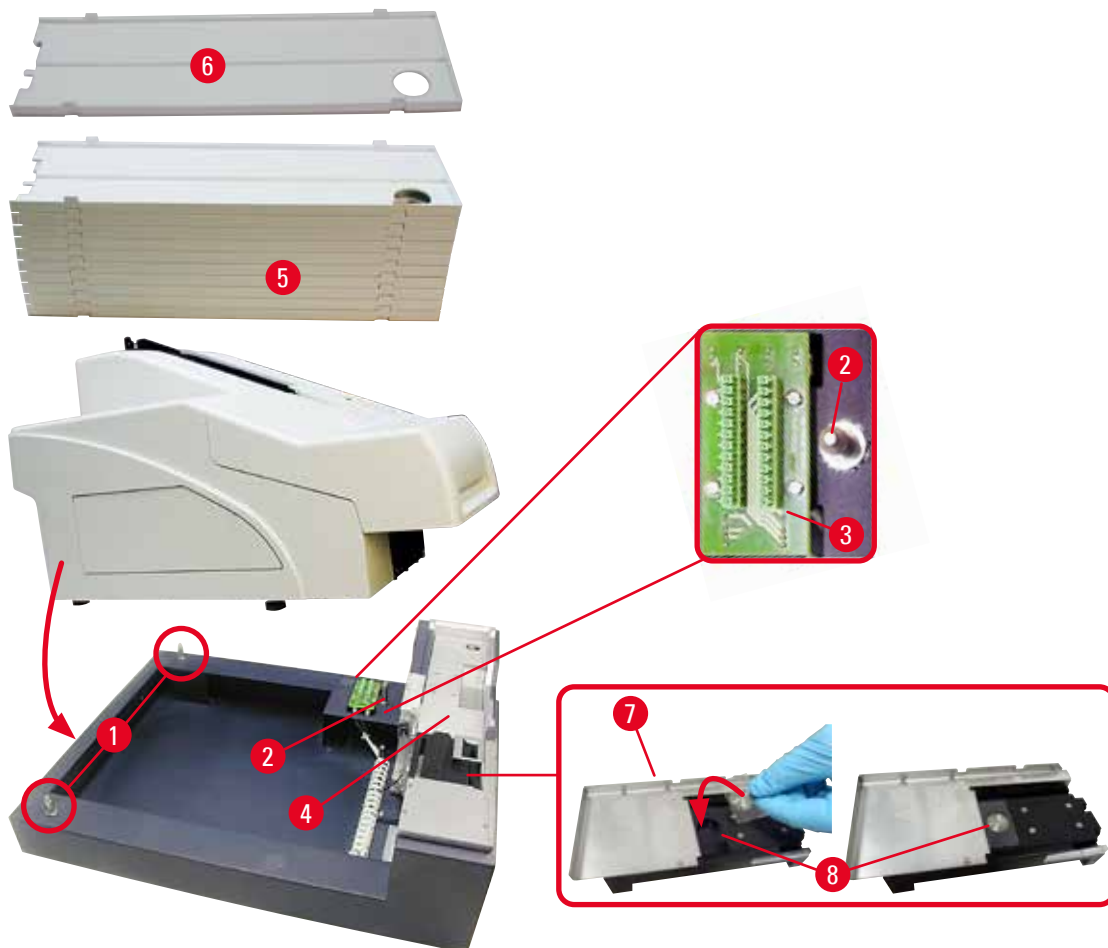

Fig. 12
4. Hold the printer on both sides (right and left) and place it so that the two rear bolts (→ "Fig. 12-1") fit into the baseplate first, as shown in (→ "Fig. 12").